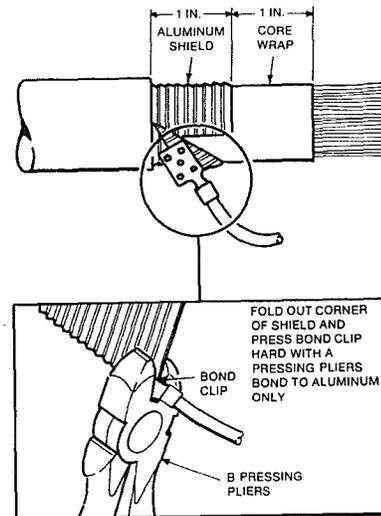

Figure 10. Installing Bond Clip to Cable Shield
4.16 Install and crimp one 6 inch lead of the bonding harness to the aluminum shield of the main cable as shown in Figure 10.